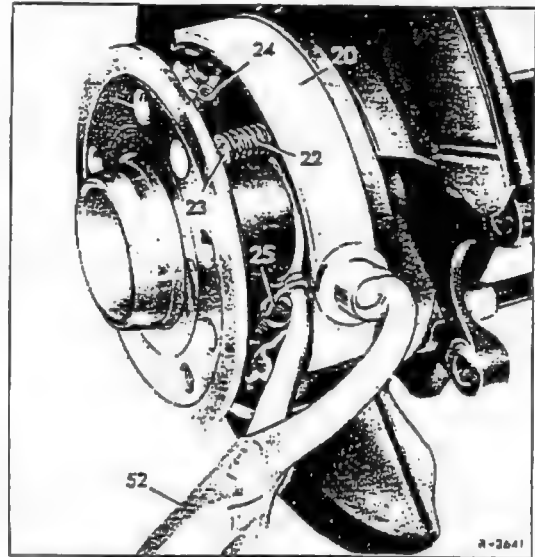

Fig. 42-28/3
3. Unhook the lower spring (25 by means of the brake spring pliers (52) (Fig. 42-28/3).